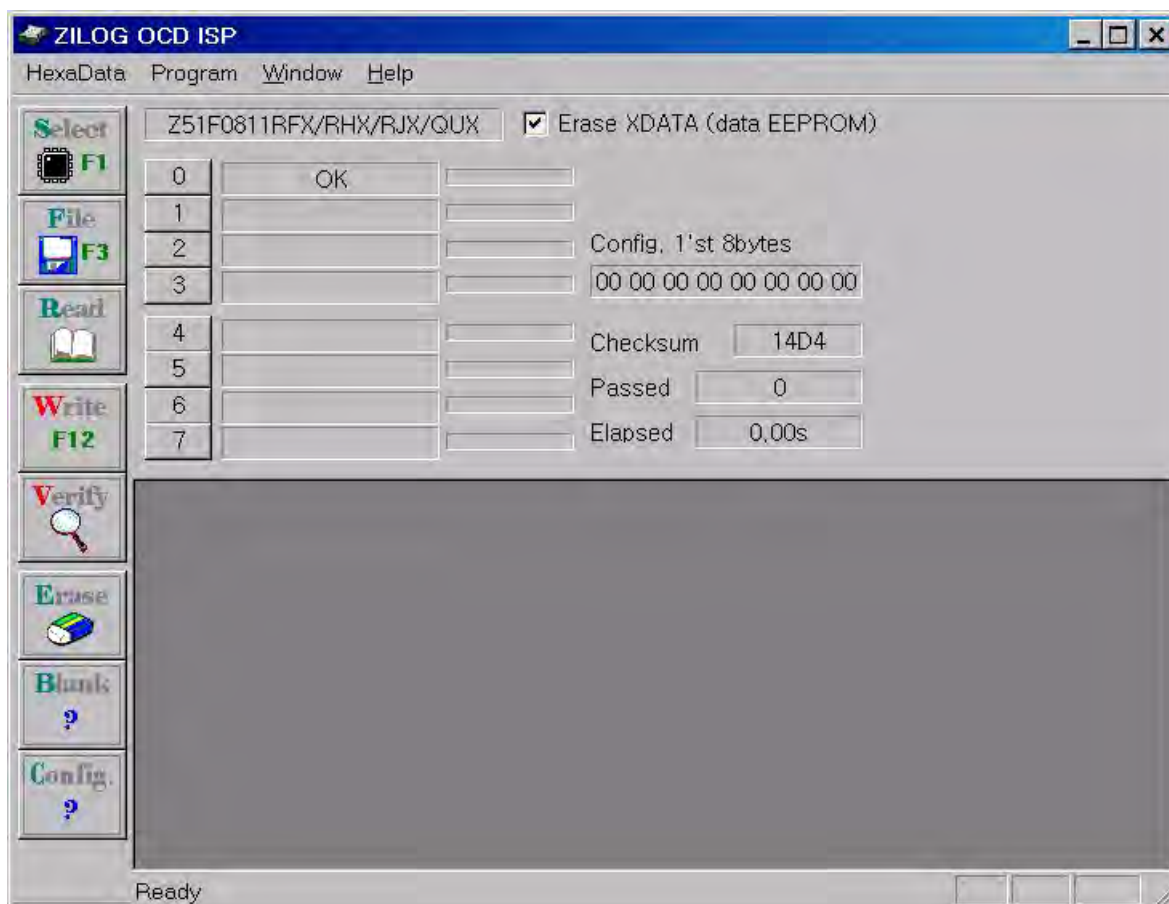

Figure 80. OCD ISP Dialog
3. The OCD\_ISP dialog box appears, as shown in Figure 80. After a hexadecimal file has been loaded, this dialog displays the name of the target device and a data checksum value, as highlighted in the figure.